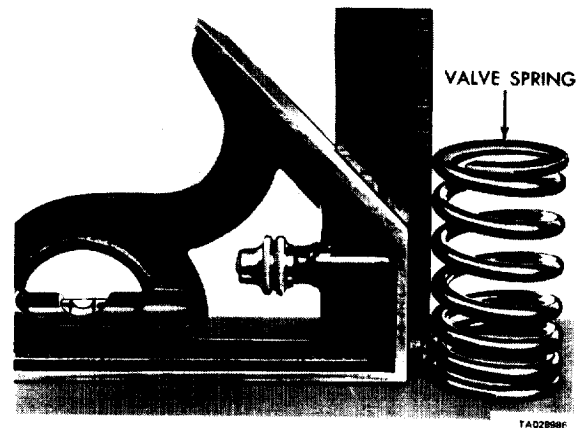

Figure 11-23. Inspecting Valve Spring Squareness.
(3) *Inspect for squareness.* Check each valve spring for squareness with a steel square and a surface plate (figure 11-23). Replace springs that are more than 1/16 inch out-of-square.